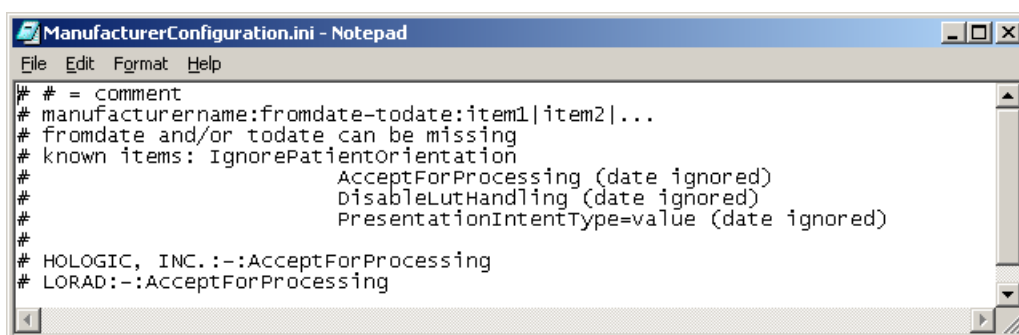

Fig. 14 ManufacturerConfiguration.ini
2. In **C:/MBCSCR/ManufacturerConfiguration.ini** (see also Fig. 14), enter: